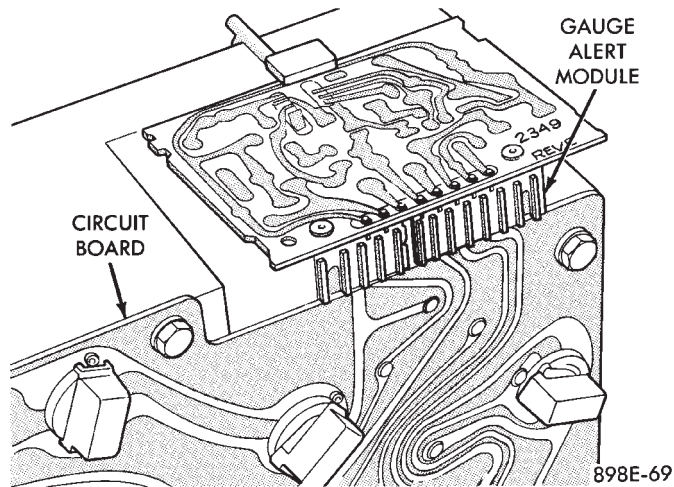

Fig. 33 Gauge Alert Module
(1) Remove cluster assembly. Refer to Cluster Assembly Replacement.
(2) Pull gauge alert module from printed circuit board (Fig. 33).
(3) For installation reverse above procedures. Use care when aligning module to printed circuit board.